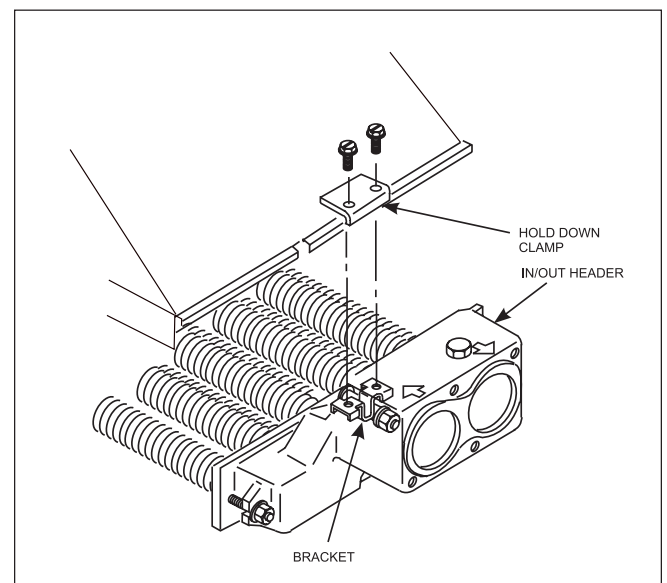

Figure 9. Flue collector hold-down brackets.
5. Remove the screws securing the two flue collector hold down clamps and remove the clamps (see Figure 9). Remove flue collector.